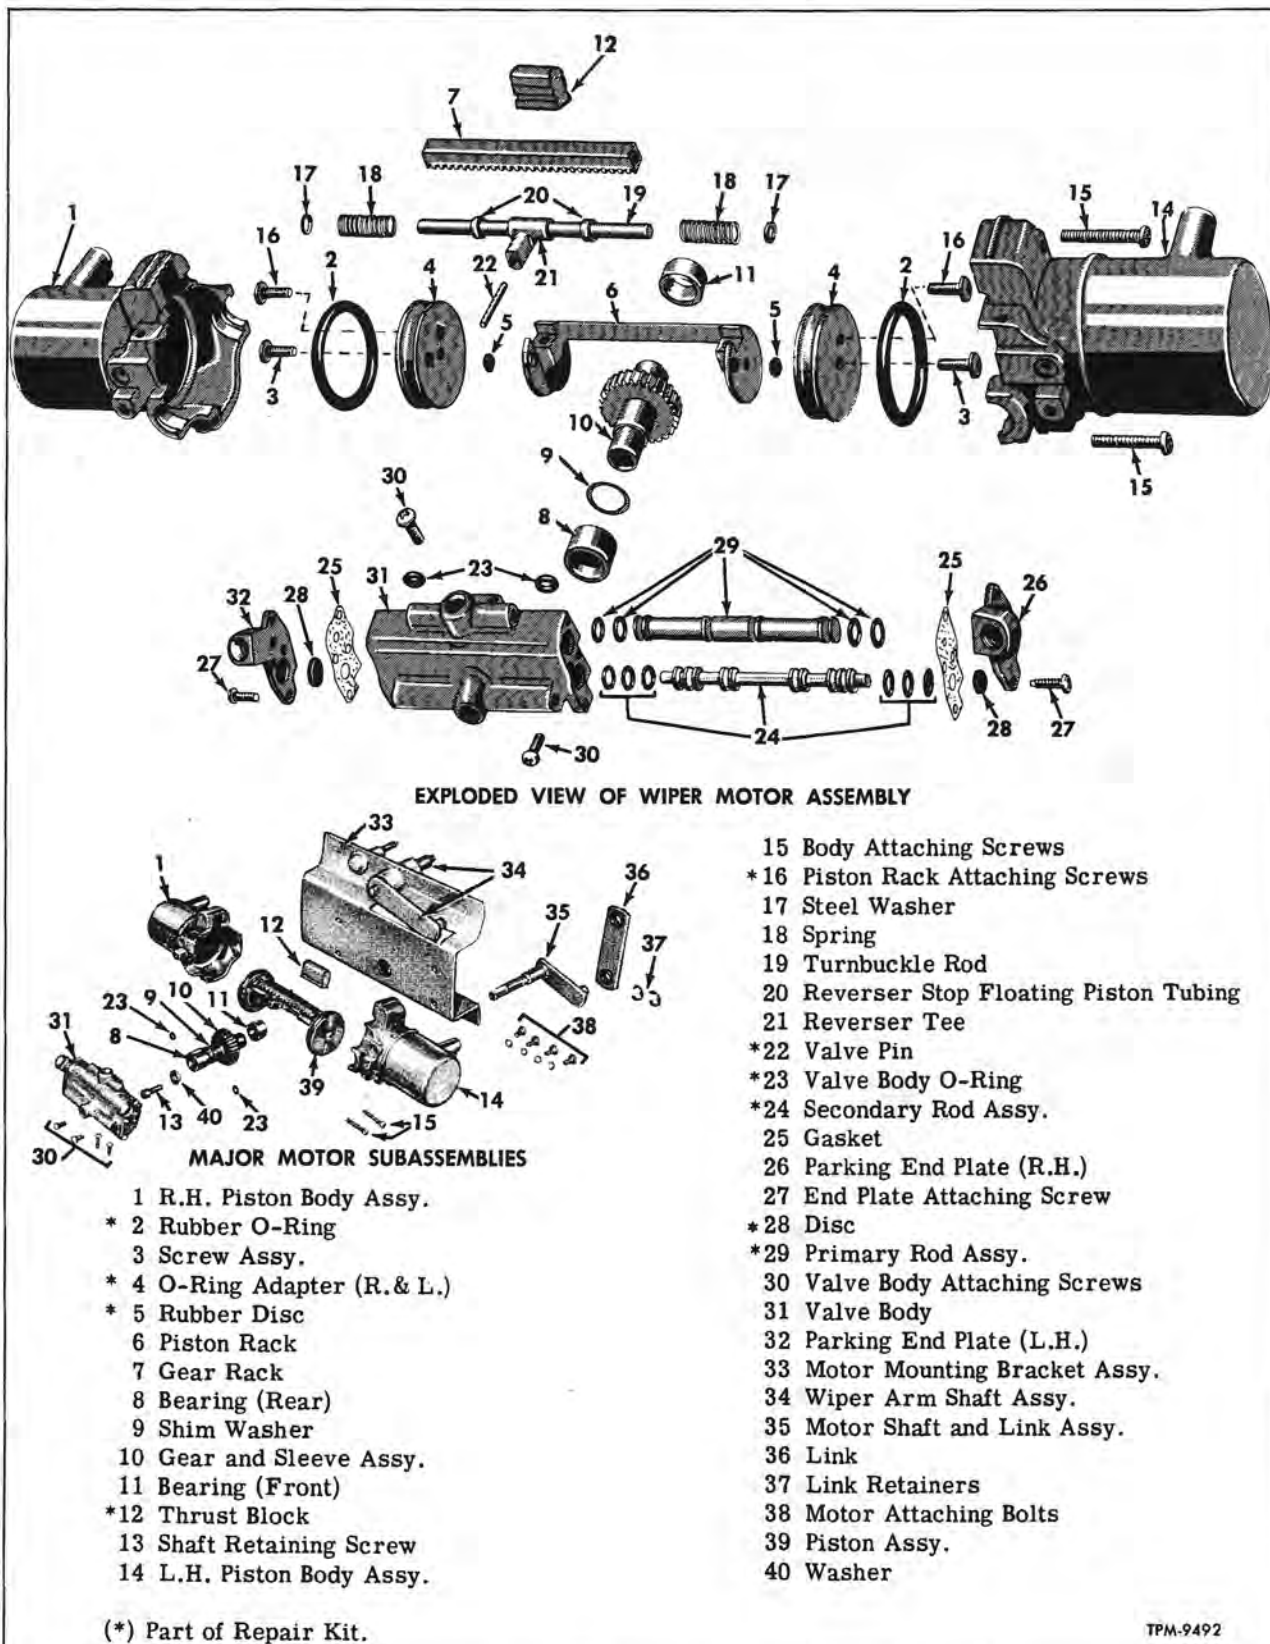

Figure 20—Windshield Wiper Motor Assembly
NOTE: A kit is available including all necessary parts to properly service motor. Kit includes all items indicated by an asterisk (\*) in figure 20 plus 1 oz. of recommended lubricant.
NOTE: All key numbers in following text refer to figure 20.
NOTE: Lower left view of figure 20 shows major subassemblies.
5. Referring to figure 20 assemble tee (21), tubing (20), springs (18), and washers (17) on turn-buckle rod (19) as shown. Position gear rack (7) to piston rack (6), then with rubber discs (5) located